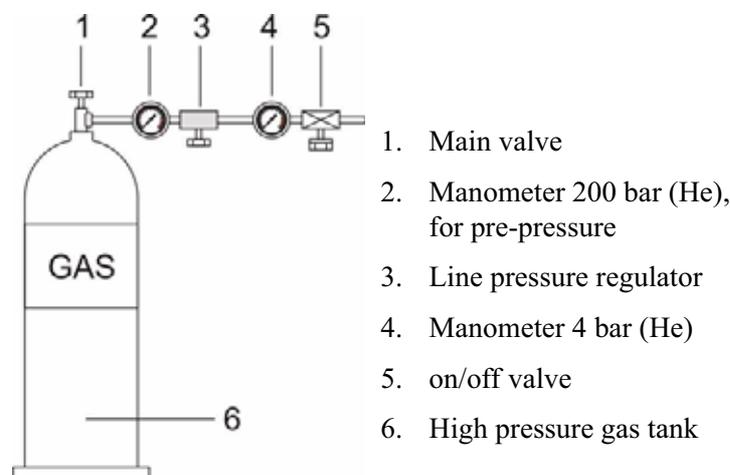

Figure 2-13. Gas Tank
1. After mounting the reducing valve to the gas tank, both valves should be open (that is, the on/off valve and the reducing valve, see Figure 2-13).
2. Open the main valve for two or three seconds to let the gas purge the whole valve system (see Figure 2-13).